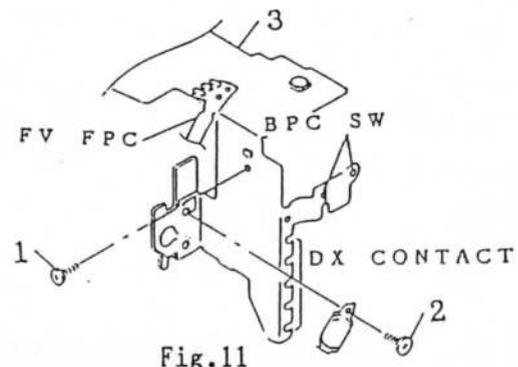

Fig.11
- (4) Take off two SCREWS (No.1,2) and detach the soldered portion of FV FPC, BPC SW, DX CONTACT as shown in Fig.11, then remove the AE EPC (No.3)